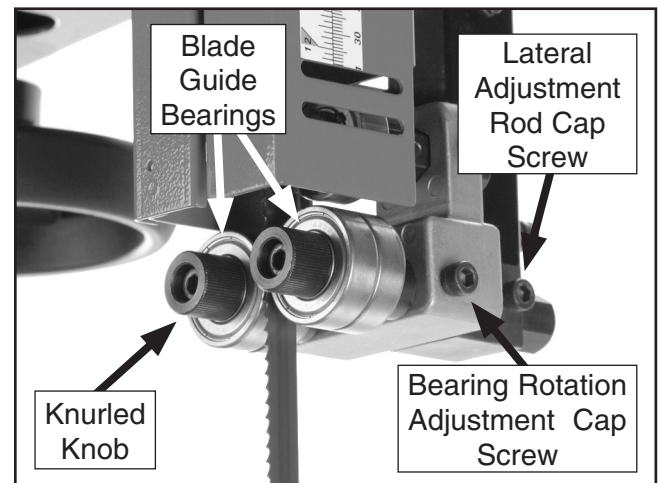

Figure 32. Blade guide controls.
3. Familiarize yourself with the blade guide controls shown in **Figure 32**.